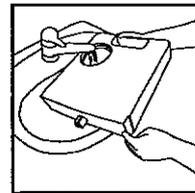

Fig. 13
- Fill the tank with water by holding it flat and below the water faucet (Fig. 13).